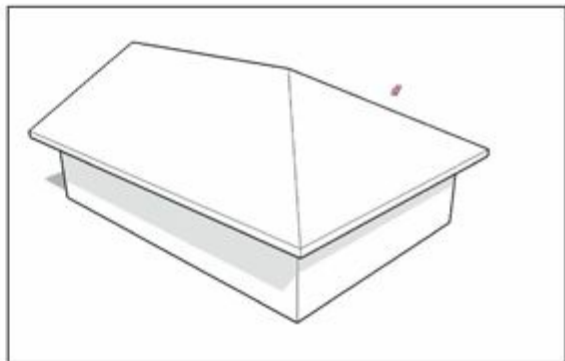

FIGURE 4-37: To make a hip roof, start with a gabled one.
3. **With the Tape Measure, create a guide the distance you just measured from the end of the gable, as shown in Figure 4-37.**
4. **Draw edges from the point on the ridge you just located to the corners of your roof, as shown in Figure 4-37.**